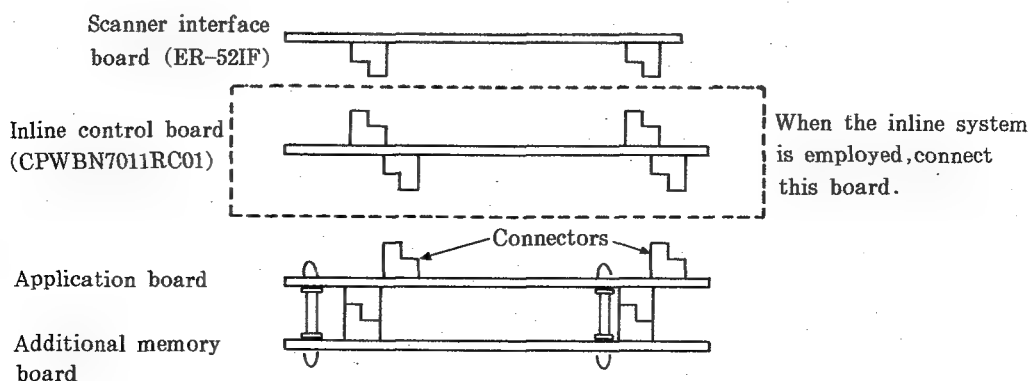

Fig. 54
- (1) For safety, unplug the ER-6750.
- (2) Remove the rear cover. (See page 38.)
- (3) Connect the scanner interface board (ER-52IF) onto the application board.
- (NOTE) When the inline system is employed, first connect the inline control board (CPWBN7011RC01) to the application board, then connect the scanner interface board onto the inline control board. (See Fig. 54.)